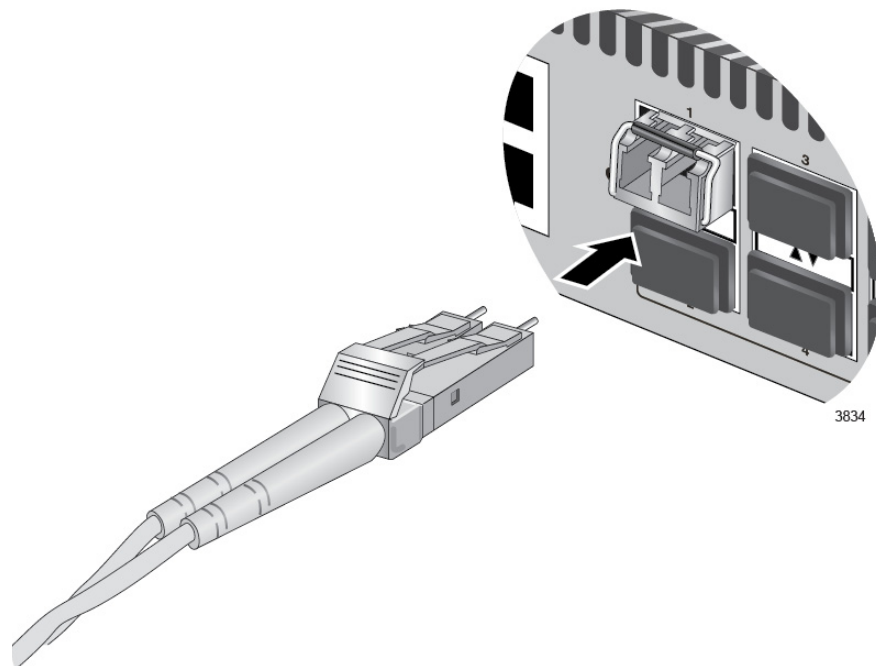

Figure 38. Connecting a Fiber Optic Cable to a Transceiver
7. Connect the fiber optic cable to the transceiver, as shown in Figure 38. The connector on the cable should fit snugly into the port, and the tab should lock the connector into place.